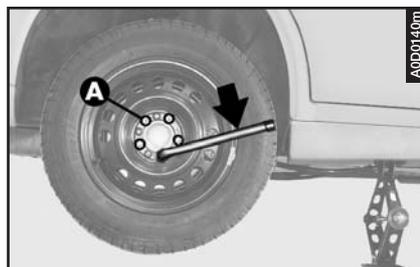

fig. 17
– Tighten the five fastening bolts (**A-fig. 17**).